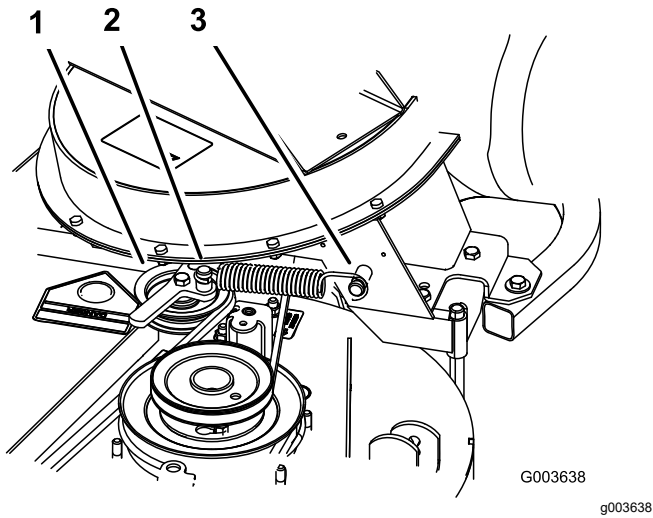

Figure 34
- Install the spring as shown in Figure 34.